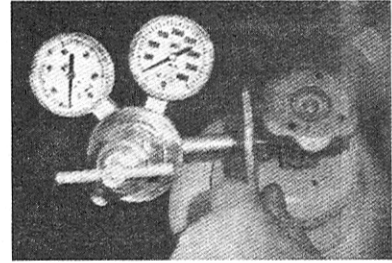

Figure 3
2. Carefully inspect the regulator for damaged threads, dirt, dust, grease, oil or other flammable substances. Remove dust and dirt with a clean cloth. Be sure the inlet swivel filter is clean and in place. Attach the regulator to the cylinder valve. Tighten securely with a wrench (See Figure 3).